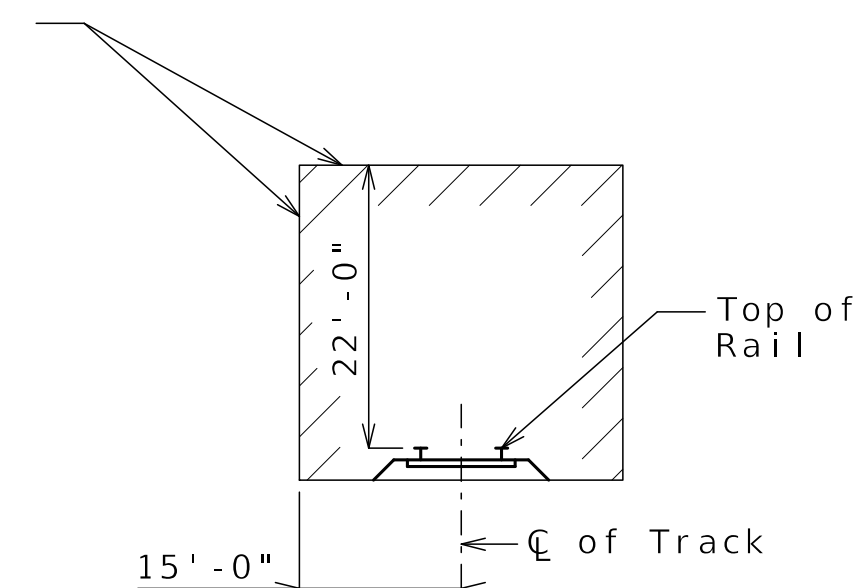

FIGURE 1 - MINIMUM CONSTRUCTION CLEARANCES (Normal to railroad)
- Temporary Construction Clearances, including falsework clearances, shall comply with Figure 1.